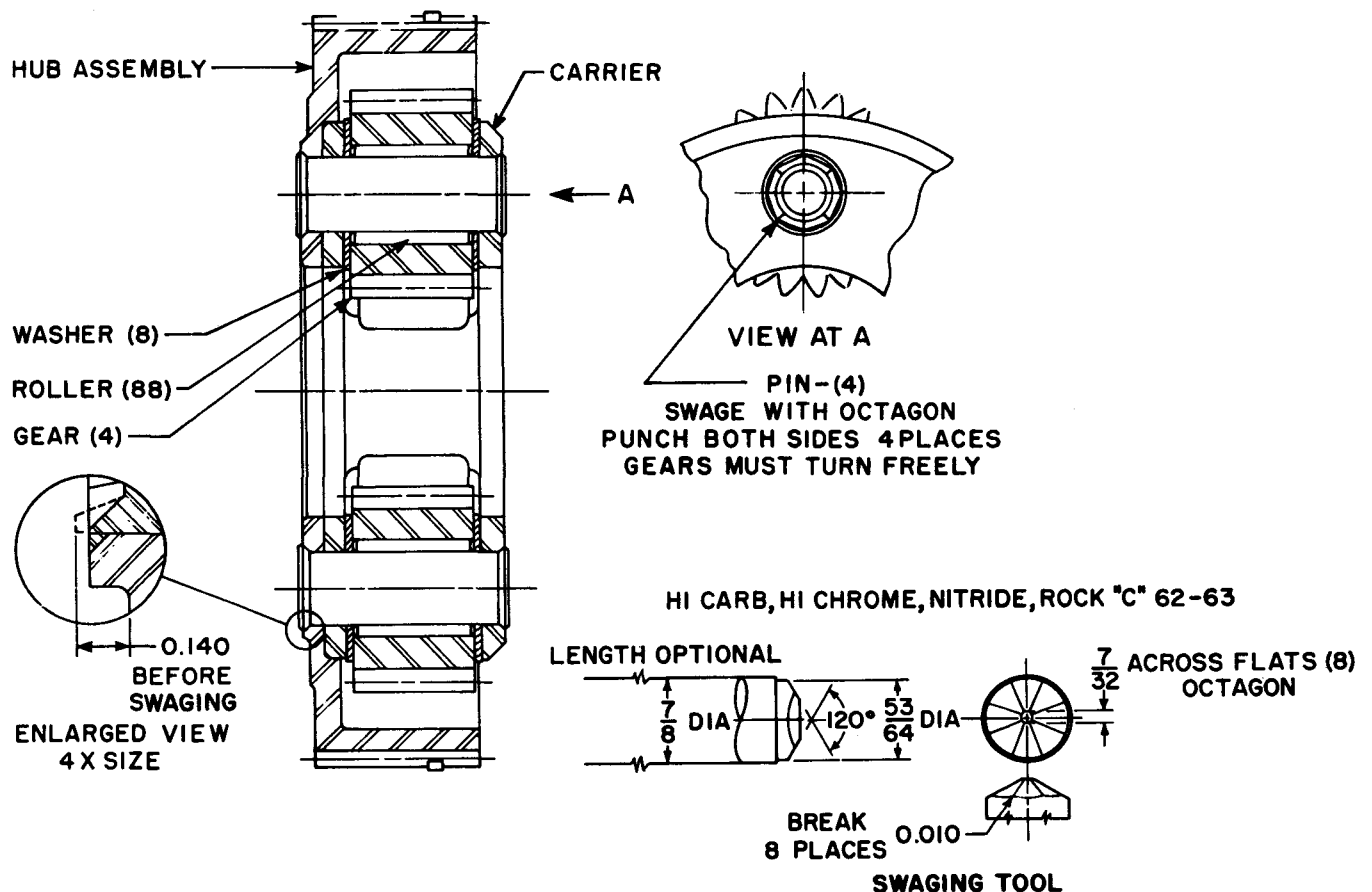

Fig. VI-16. Reverse planetary carrier assembly
(4) On 3531-3 transmission, install gasket 10 (B, foldout 8), cover 12 and two bolts 13 with lock washers 14.
a. Disassembly (A, foldout 9 and fig. VI-16)
(1) Position the carrier assembly 7, hub assembly 8 upward, on a drill press table.
(2) Using a 3/4-inch twist drill, centered accurately, drill the end of each pinion spindle 10 to weaken the staking.
c. Assembly (A, foldout 9, and fig. VI-16)
(1) Make a pinion pin alining tool by grinding or turning a chamfer on one end of a 6-inch length of 3/4-inch, cold-rolled steel shafting.
(2) Coat the bore of each pinion 12 (A, foldout 9) with oil-soluble grease.
(3) Holding the alining tool in one hand, install one thrust washer 11 and then a pinion 12 onto the alining tool.
(8) Repeat procedures (3) through (7), above, for the remaining pinion groups.
(9) Position the hub assembly 8, front side downward, and install the carrier assembly 13 into it. Aline the spindle bores of the carrier and hub 8, and the pinion groups, by inserting the alining tool at each spindle location.
(10) Press new pinion spindles 10 through the carrier, pinions, and hub assembly until they project 0.140 inch from the hub assembly (see inset detail of fig. VI-16).
(11) Stake both ends of the spindles into the countersinks of the carrier and the hub. Refer to fig. VI-16 for the details of fabricating the staking punch.